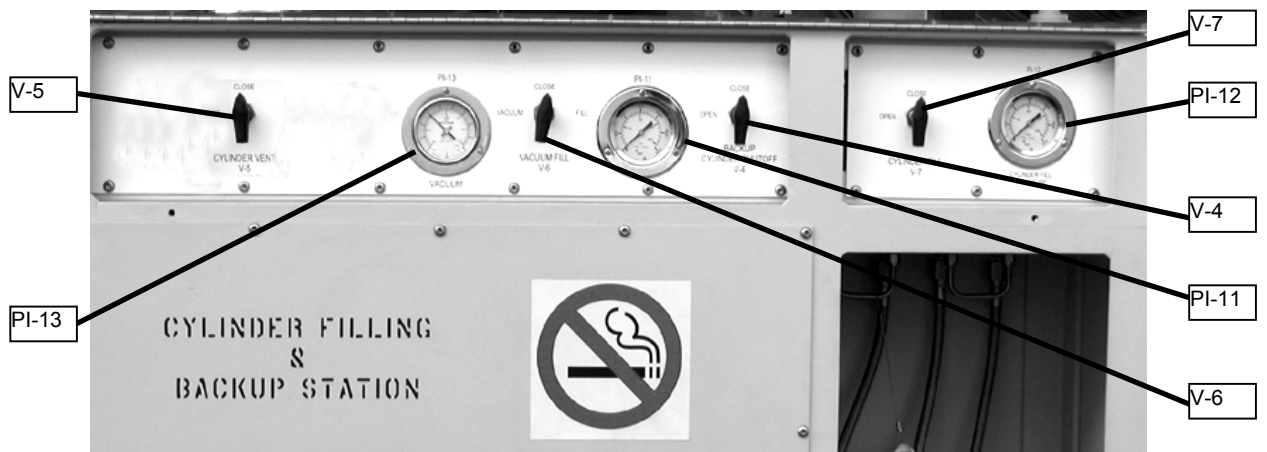

Figure 4. Oxygen Backup Supply System Panel.
- If the oxygen backup supply system is to be used in automatic mode, set the backup system shutoff valve (V-4) to 'OPEN', otherwise set the valve to 'CLOSE'. Refer to Figure 4.
- Set the backup cylinders vent valve (V-5) to 'CLOSED'. Refer to Figure 4.
- Set the cylinder fill/vacuum selector valve (V-6) to 'CLOSE'. Refer to Figure 4.
- Set the cylinder transfilling shutoff valve (V-7) to 'CLOSE'. Refer to Figure 4.
flow to the hospital, as long as the backup system cylinders are pressurized. When the oxygen pressure drops below 80 psi, an alarm inside the patient ward (part of the PODS) will sound. If the backup system shutoff valve (V-4) is closed, slowly rotate it to the 'OPEN' position (see Figure 4). If the system is in the automatic back-up mode (see paragraph 4.1(f)), the backup system supply regulator (PRV-3) will engage at 80 psi and provide the oxygen flow to the hospital automatically.
Unless otherwise indicated, refer to Figures 4 and 8.